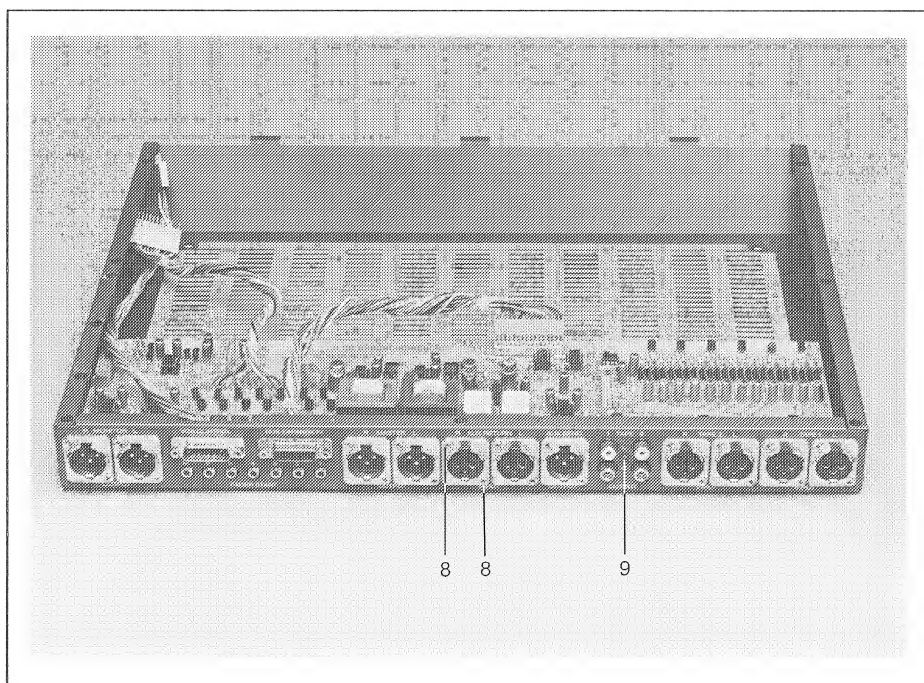

Fig. 4
- Lightly loosen the two screws [8], Fig. 4 on each XLR flange.
- Remove the screw [9], Fig. 4.